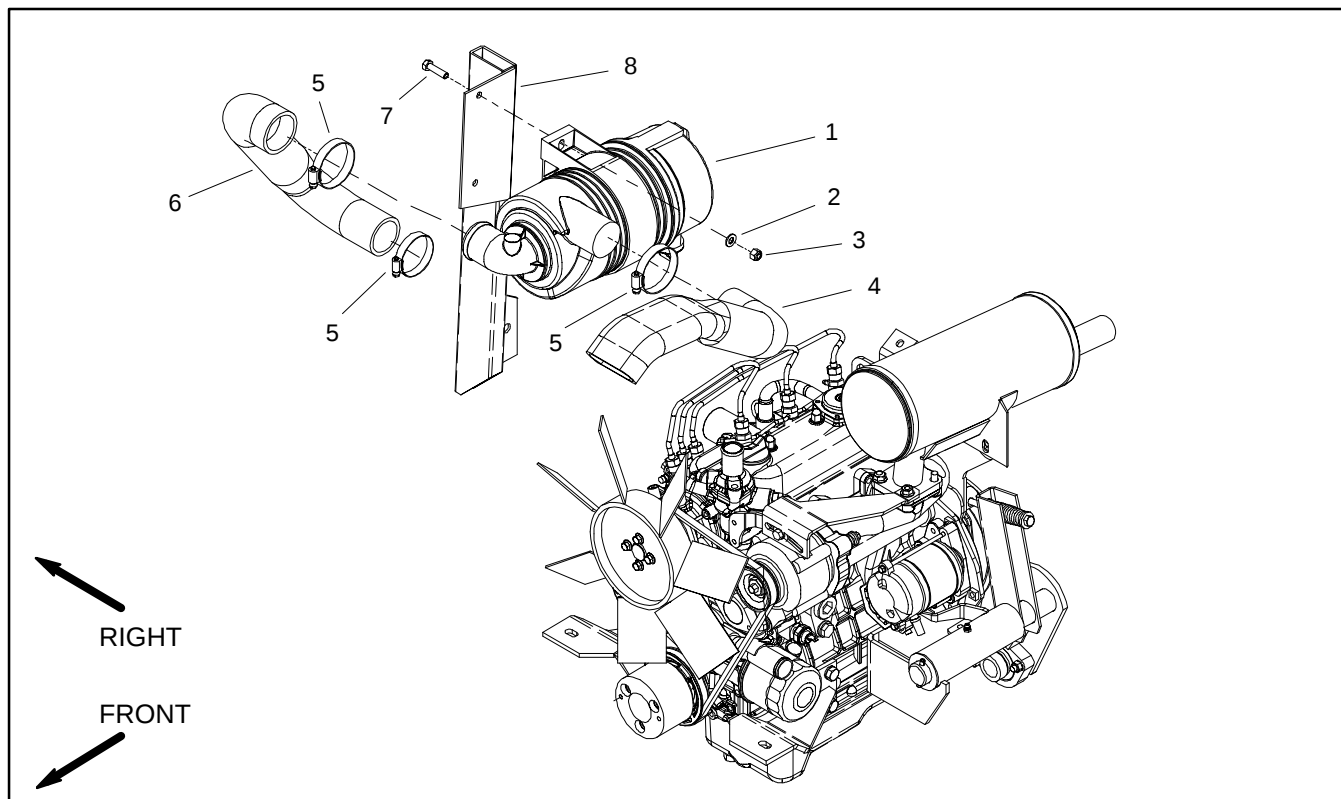

Figure 4
2. Remove air cleaner components as needed using Figures 4 and 5 as guides.
1. Reassemble air cleaner system using Figures 4 and 5 as guides. Make sure that vacuator valve is pointed down after assembly.